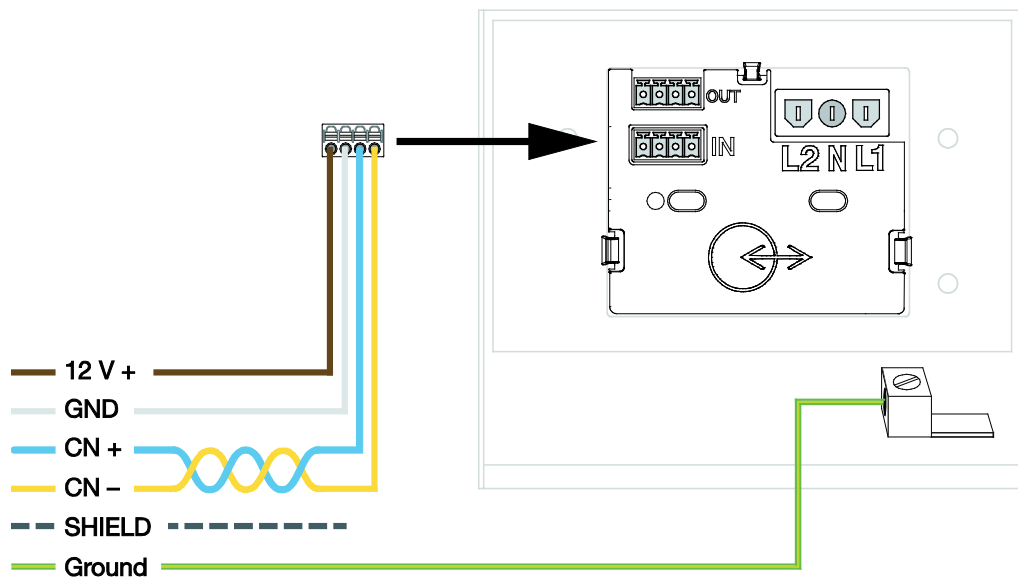

Figure 36: Powerwall 2 AC Ground and Communication Connections
7. On the Powerwall side, strip the end of the high-voltage grounding conductor and insert it in the Powerwall chassis ground lug (Fig 36). The ground lug is identified with the following symbol: . Tighten the screw in the ground lug to 4.5 Nm (40 lb-in).